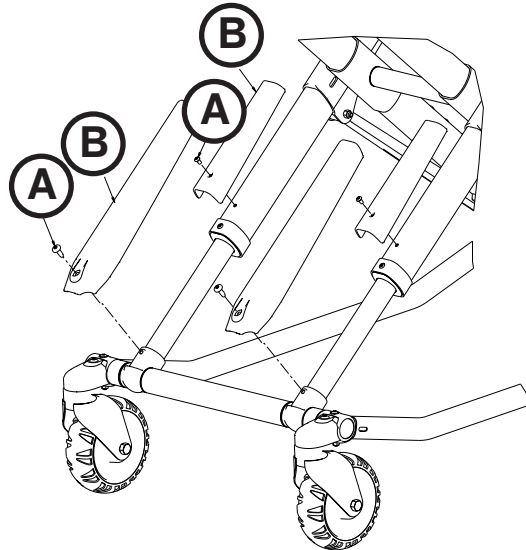

Figure 72
2. Using a T27 Torx driver, remove the truss head screw (A) that secures the X-frame guard (B) to the inner tube (see Figure 72).
3. Using a T25 Torx driver, remove the two button head cap screws (C) that secure the tube bearing.
4. Remove the outer tube X-frame guard and set aside to reuse on the new outer tube (see "Figure 72" on page 70).